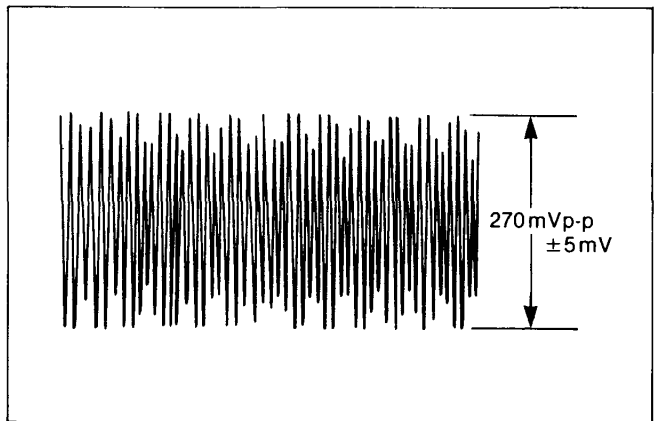

Figure E52
6. Adjust VR4709 for 270 +/-5mVp-p as shown in Figure E52.